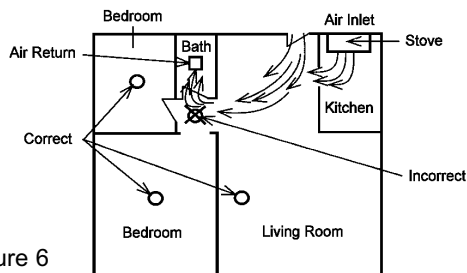

Figure 6
- **In air streams passing by kitchens.** Figure 6 shows how a smoke alarm can be exposed to combustion particles in normal air movement paths, and how to correct this situation.